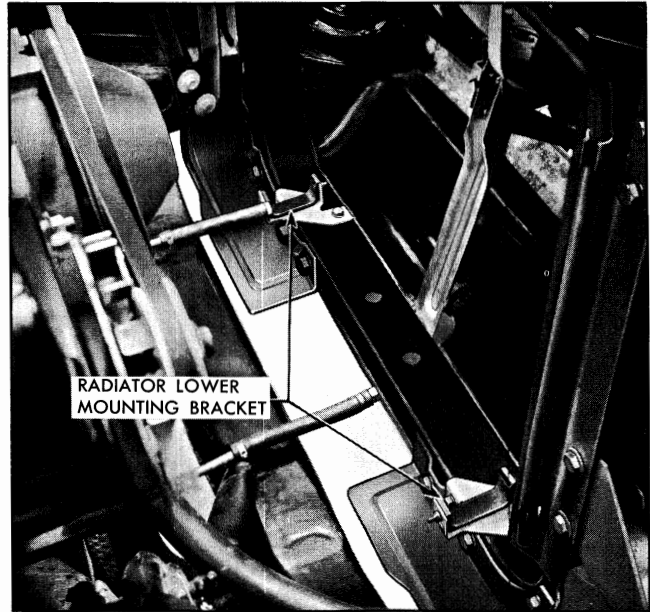

Fig. 10-4 Location of Radiator Assembly Lower Mounting Brackets
6. Remove radiator assembly by pulling straight up. Note that the radiator assembly is held at the bottom by two "cradles" secured to the radiator shroud at bottom (Fig. 10-4).